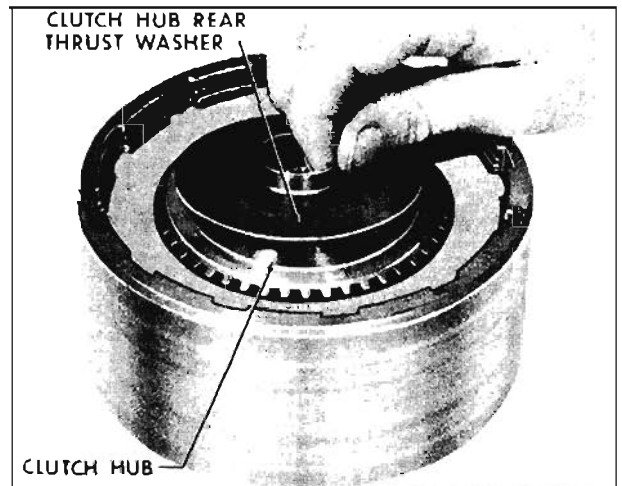

Fig. 6-348 Removing Thrust Washer
3. Remove clutch hub rear thrust washer. (Fig. 6-348)